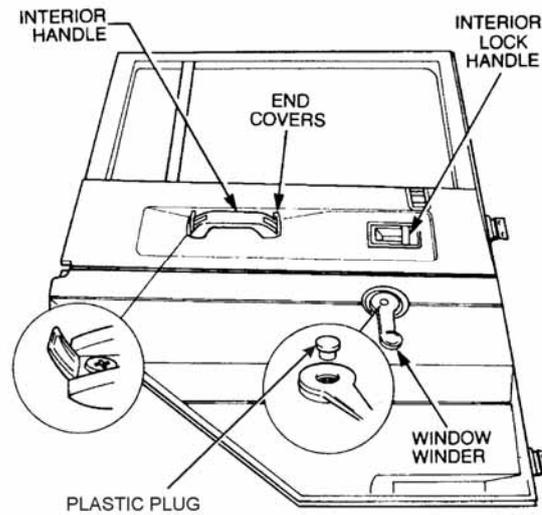

Figure 25 Window Winder Handle Removal
- a.** Prise the plastic cover (refer Figure 25) from the window winder handle.
- d.** Using a small screwdriver, prise the end covers from the interior handle (refer Figure 25).
- h. Remove the screws securing the interior lock handle bezel (refer Figure 25).